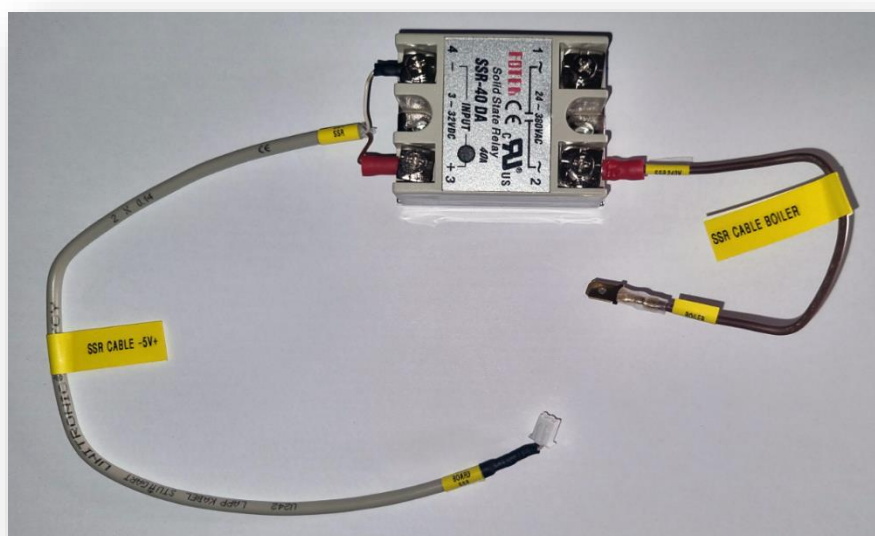

Fig. 5.2
- Connect the SSR CABLE -5V+ to the relay to 3-32VDC ports , red to positive (+) and black to negative (-), then connect the remaining SSR CABLE BOILER to the upper left port (the other port would be ok to but for the future installation steps is better this way) (fig. 5.2)